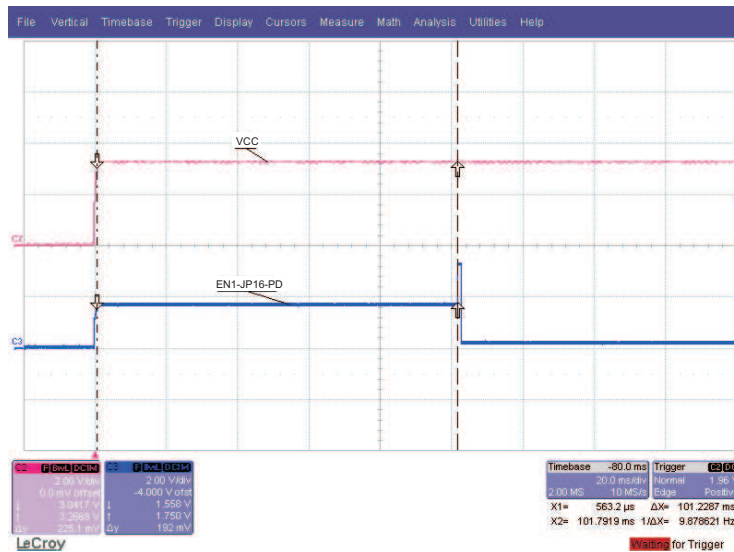

Figure 4. Power-Up Delay, With Parameter Change
- Configuration change-pass checksum case: If the user parameter area has been updated but the device has not been RESET (see UCD9081 data sheet RESET description) then the user and application parameter areas do not match. After the next RESET, the checksum test occurs. If the test passes, then the UCD9081 copies the user parameters to the application parameters area. This nominally takes 102 ms as shown in Figure 4. Subsequent power ups (with unchanged user parameters) fall into the normal category.
- Configuration change-fail checksum case: If the checksum test fails, then the UCD9081 copies the application parameters back to the user parameters area. This nominally takes 102 ms as shown in Figure 4.